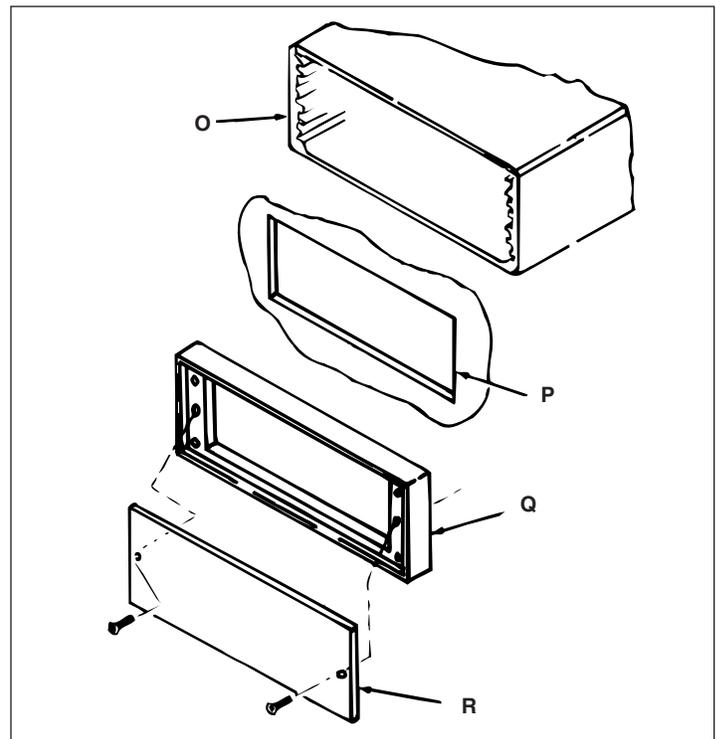

Figure 9, Mounting Gauge in a Panel
6. Position the gauge (O) behind the panel (P). Install the gauge bezel (Q) in front of the panel, secure with four screws. Refer to Figure 9. Maximum panel thickness is 1/8 inch. Attach the face plate (R) (2 screws).